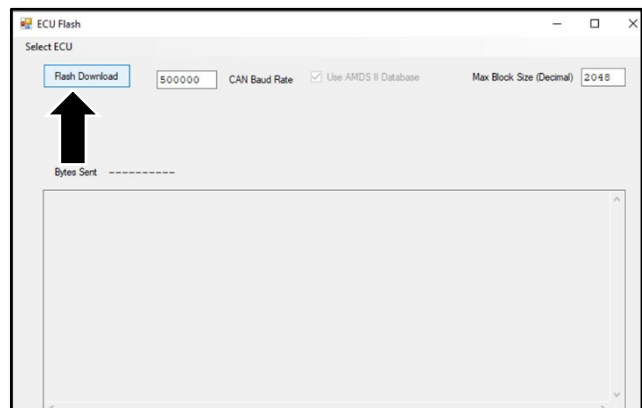

Figure 3
- 6. Select "Flash Download" (refer to Figure 3).